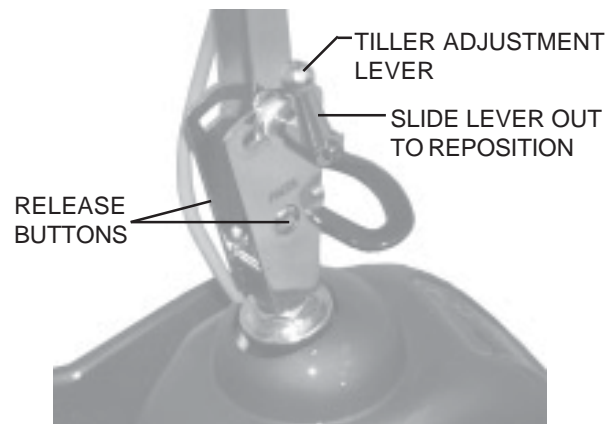

Figure 10A. Adjusting The Tiller Angle
2. Press the release buttons and move the tiller to a comfortable position. See figure 10A.